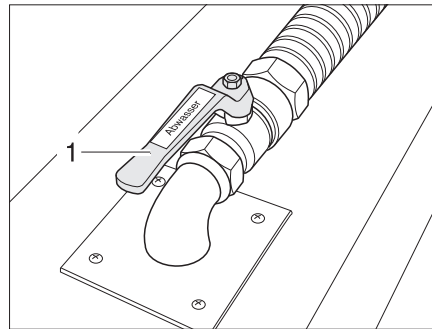

Fig. 371 Waste water tap
The waste water tap (Fig. 371,1) is fixed in the double floor. The waste water tap is black and is labelled with the word "Abwasser" (waste water).
- Open the waste water tap (Fig. 371,2). The waste water will run out.